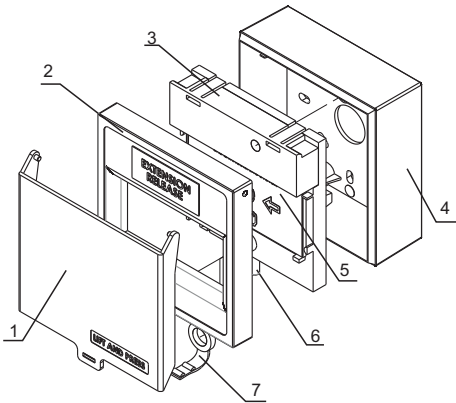

Fig.1
FD3050Y consists of : surface mounting box (pos.4, fig.1), a carrier unit (pos.3, fig.1), elastic element (pos.5, fig.1), a test key(pos.6, fig.1), breakable seal(pos.7, fig.1), cover(pos.2, fig.1) and protective cover (pos.1, fig.1) :
3. Dismantle the cover (pos.2, fig.1) and replace the torn breakable seal (pos.7, fig.1).